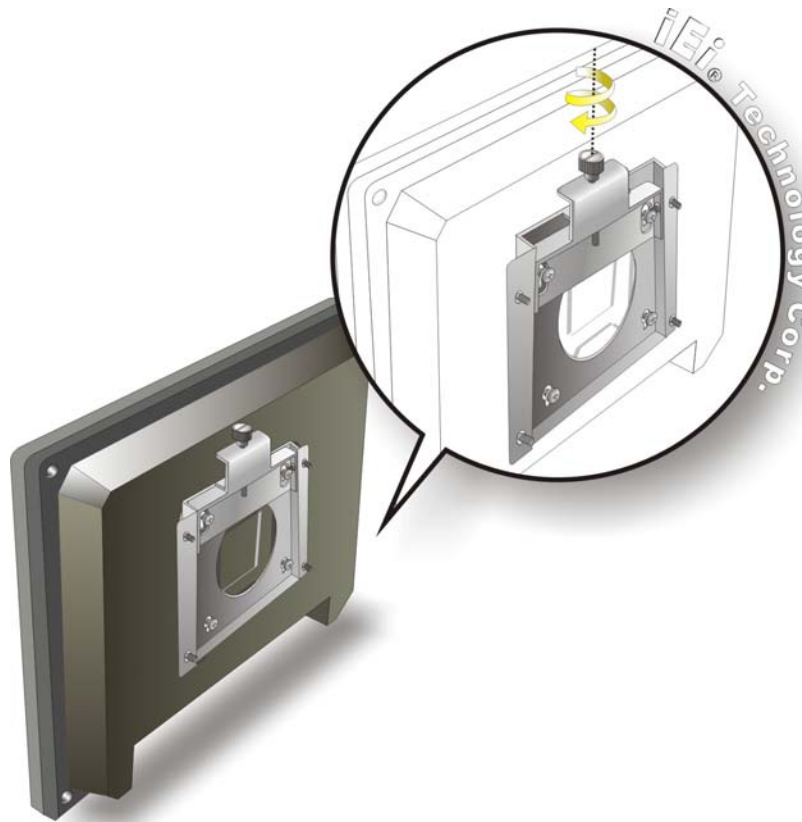

Figure 3-11: Secure the Panel PC
Step 9: Secure the panel PC by fastening the retention screw of the wall-mounting bracket. (**Figure 3-11**).